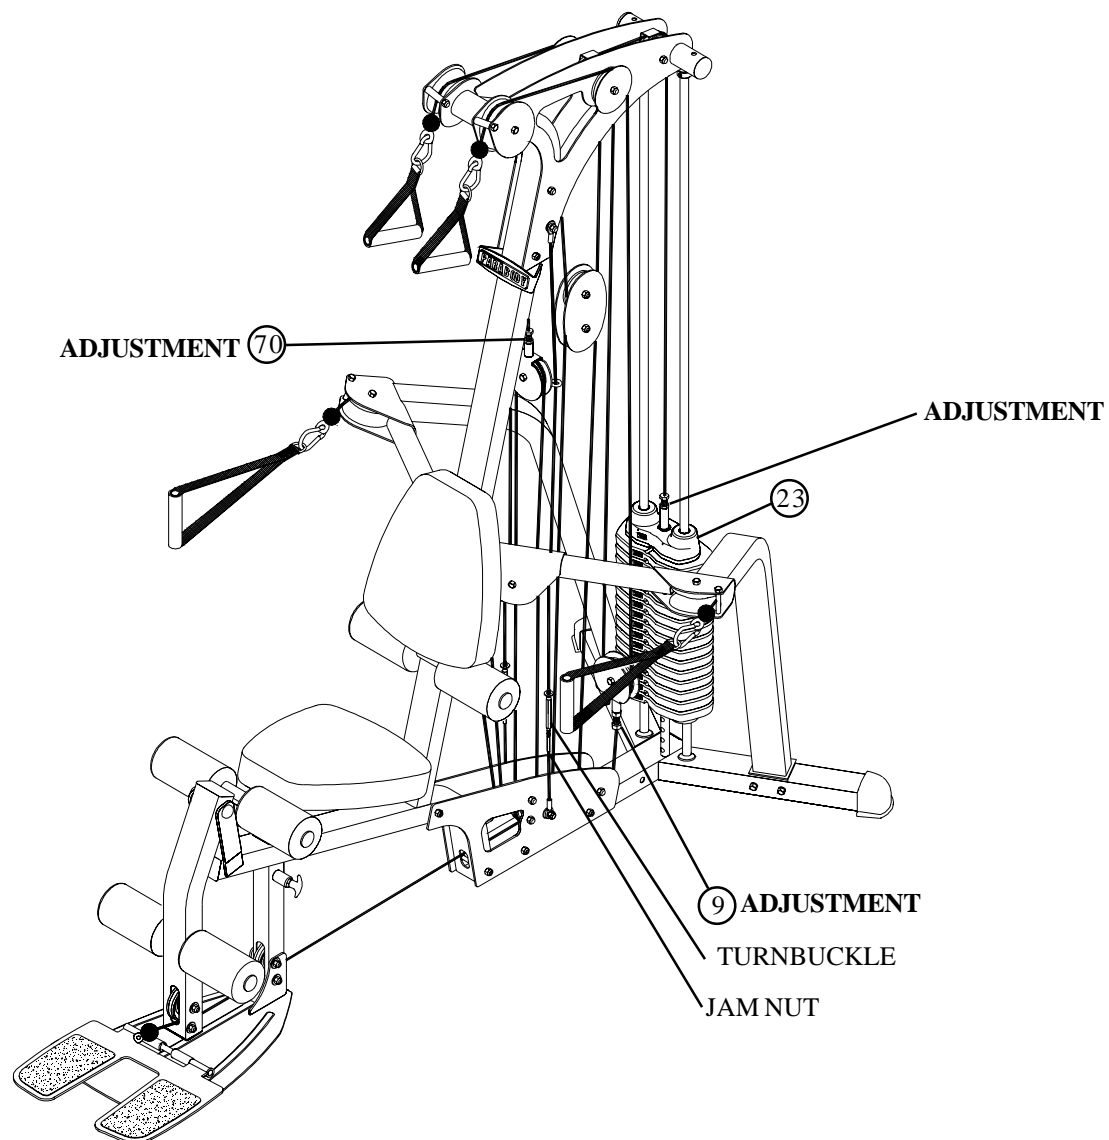

FIGURE 29
- Adjust the turnbuckle on each GUIDE CABLE (71) to add tension to the GUIDE CABLES (71). Secure turnbuckle with the JAM NUTS as shown in FIGURE 29.
- If upon completion of assembly, the HEAD PLATE (23) does not sit on top of the first WEIGHT PLATE (21), push the HEAD PLATE (23) down, insert the WEIGHT STACK PIN (27) and perform several repetitions. This will relax the cable system and prevent the HEAD PLATE (23) from lifting up. See FIGURE 29
- If after completing the previous step, the HEAD PLATE (23) still does not sit on top of the first WEIGHT PLATE (21) or if there is excess slack in the cable system, adjust the threaded ends of the CABLES attached to the PULLEY BRACKETS (9) and (70) accordingly and retighten the jam nuts. See figure 29.
- For maximum performance, the HEAD PLATE (23) should just barely sit on the top WEIGHT PLATE (21).